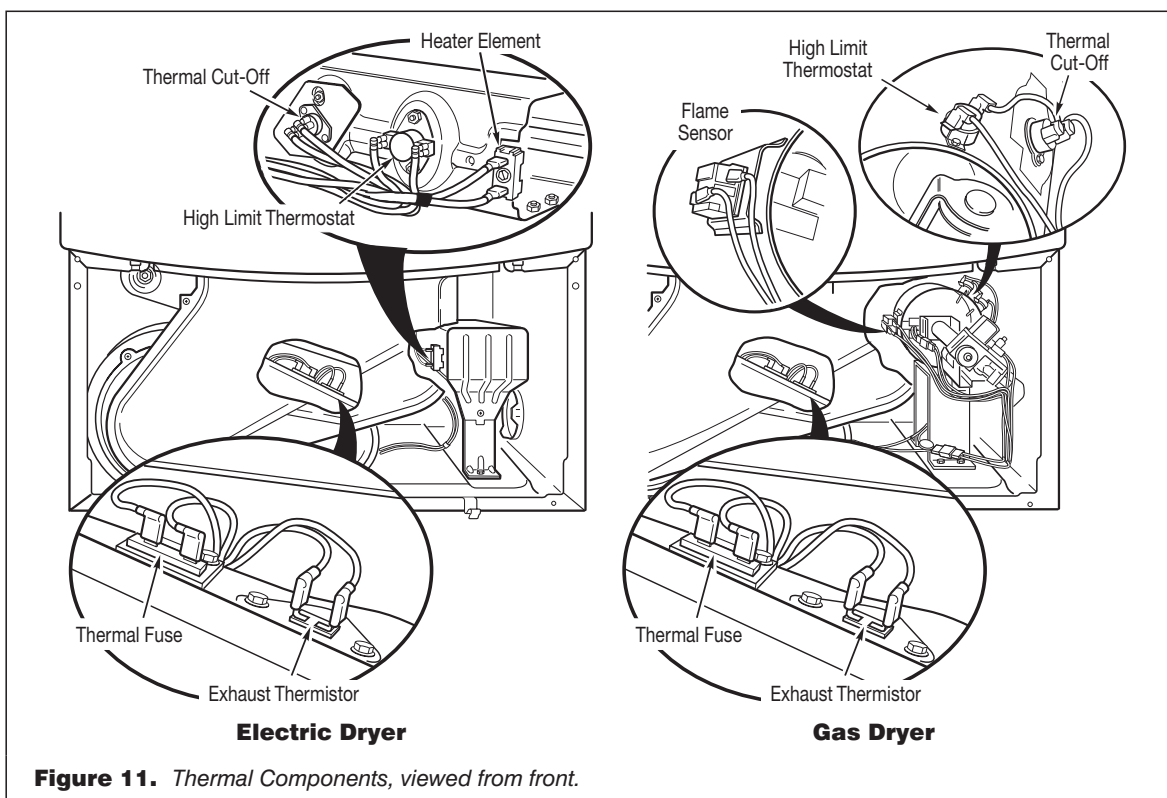

Figure 11. Thermal Components, viewed from front.
Locate the components using figure 11, page 8.
5. Locate the high limit thermostat. See figure 11. Measure the continuity through it by connecting the meter probes on the red wire and blue wire terminals.
- Check wire connections at the machine control electronics and thermistor. See Accessing & Removing the Electronic Assemblies on page 11, and for thermistor location, see figure 11.
2. Access the thermal fuse by first removing the toe panel. See Removing the Toe Panel, page 11; and for thermal fuse location, see figure 11, page 8.
3. Using an ohmmeter, check the continuity across the thermal fuse. See figure 11 for location.
3. Using an ohmmeter, check the continuity across the thermal cut-off. See figure 11, page 8 for location.